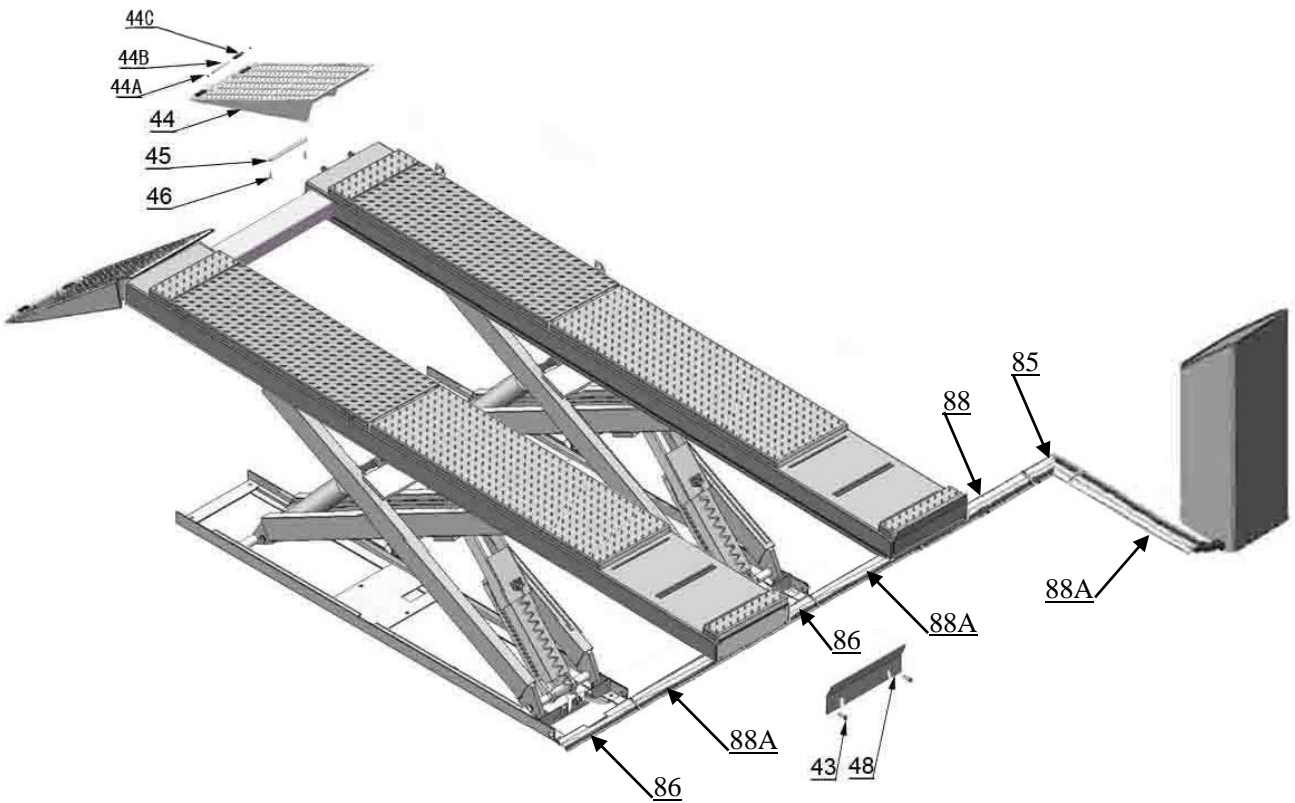

Fig. 6
1.3 Illustration of scissors lift **TLX12A** on surface installation (See Fig.6).